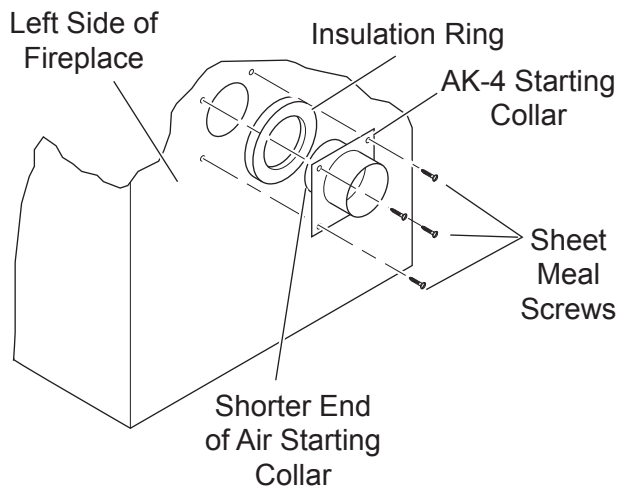

Figure 32 - Attaching Outside Air Starting Collar and Insulation Ring to Left Side of Fireplace
3. Place the starting collar (4") into the hole on the side of fireplace. Fasten it in place with the four sheet metal screws provided. *See Figures 32 and 33.*